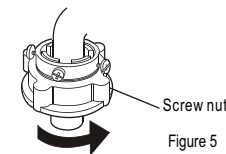

Figure 5
- 4 Take off the nameplate. Twist the fastening nut as per the indication of the figure to seal up the exit end face of the faucet. See to Figure 5.